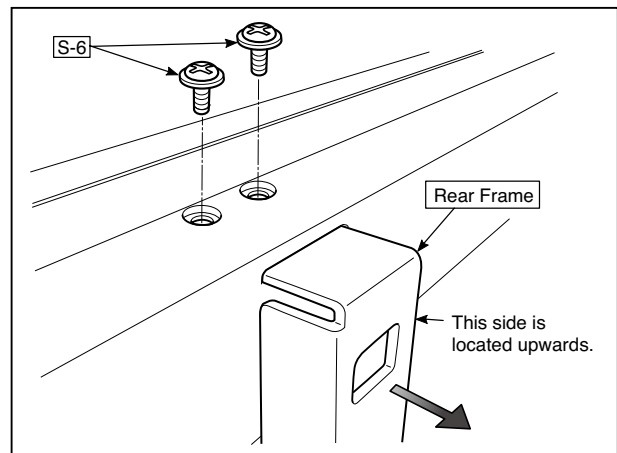

Fig.26
### 17) Remove the Rear Frame. (See Fig. 26)
1. Remove the "S-6" screws shown in the figure 26 and then remove the Rear Frame (two).